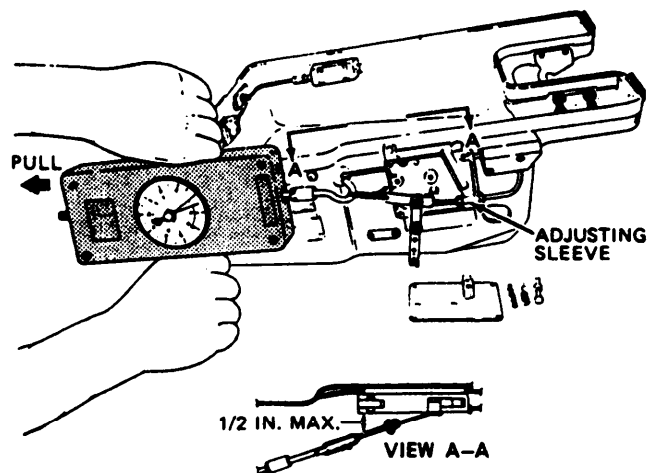

Figure 7-8.—Testing swaged ball.
6. Pull the scale towards aft direction of kit and in the normal direction of cable operation. Ensure the adjusting sleeve does not move from its housing while pull force is exerted. Ensure that the links and clevis are not pulled from the housing more than 1/2 inch. Swaged balls should withstand 100 pounds pull force (fig. 7-8).